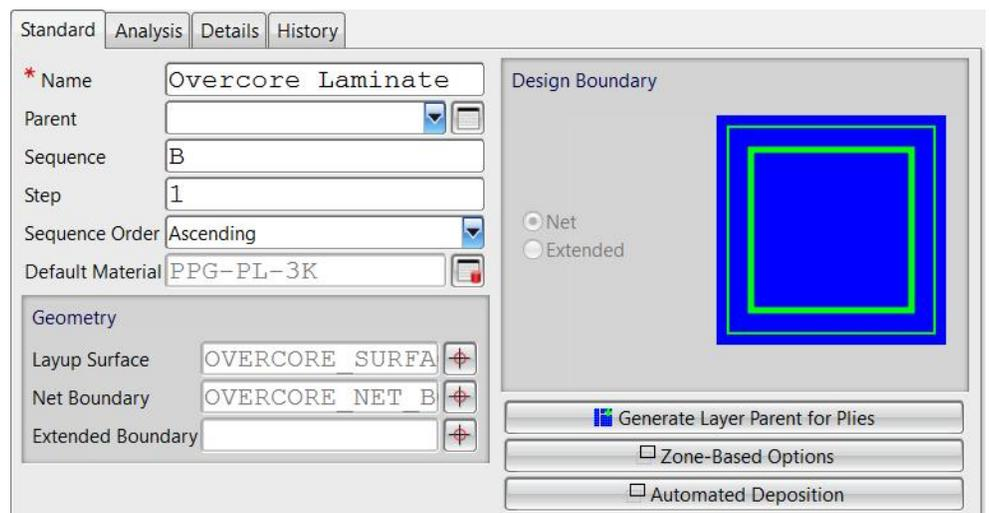

Figure 7–54
2. The laminate form is shown in Figure 7–54.